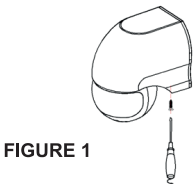

FIGURE 1
- * Loosen the screw in the back and unload the bottom (refer to figure 1).